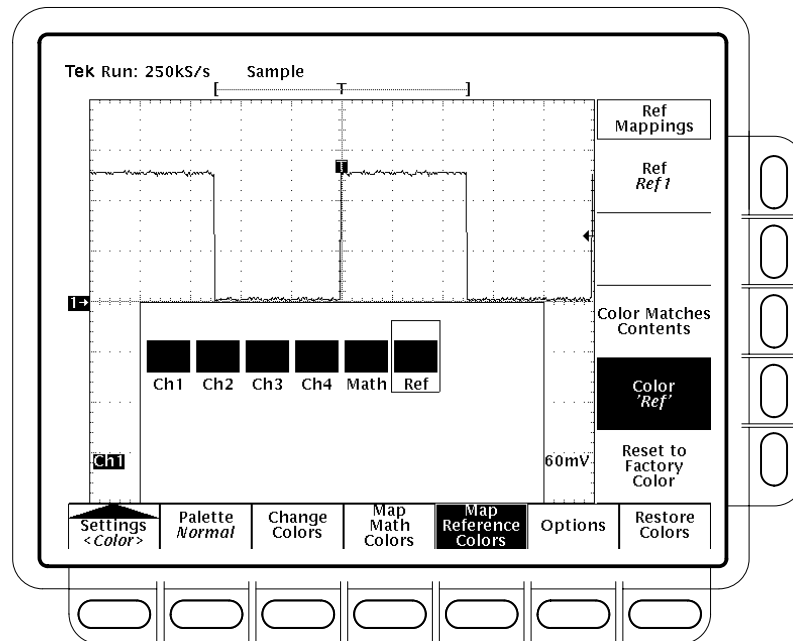

Figure 3–23: Display Menu — Map Reference Colors
1. Press **Map Reference** in the main menu. (See Figure 3–23.)